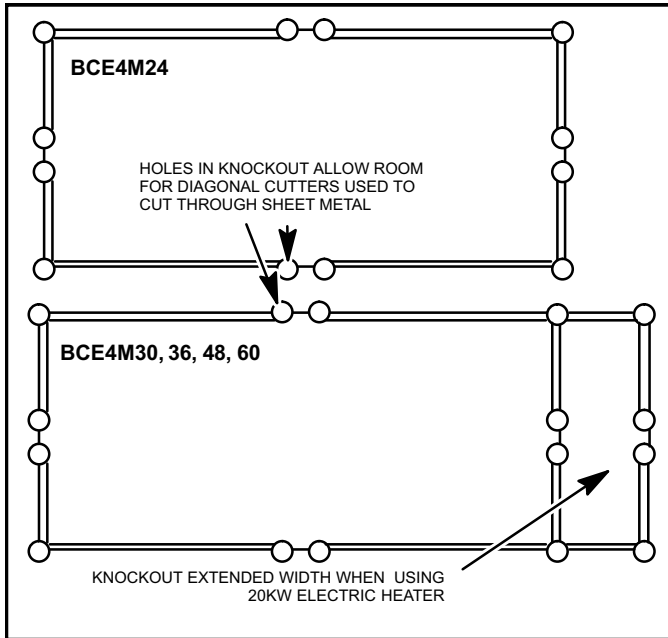

Figure 1. Air Handler Knockouts
3. Remove the electric heat knockout from the air handler vestibule panel to accommodate the heater being used. Remove the extended width knockout to allow for installation of 20kW heater (see figure 1).